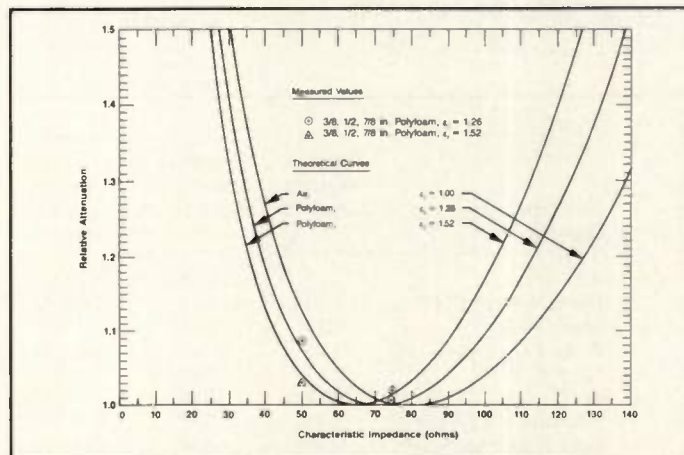

Figure 6. Optimum impedance for aluminum sheath coaxial cable.
Because of the ready availability of less expensive coaxial cable with an aluminum outer conductor or sheath, the optimum impedance is plotted in Figure 6 for several dielectric materials, where the ratio of the copper inner conductor conductivity to the aluminum outer conductor conductivity is 1.52. Several experimental points are included to verify these relative attenuation curves. The minimum attenuation impedance is greater than that of a cable
- Noise figure: 6 dB (50Ω); 4.8 dB (75Ω)